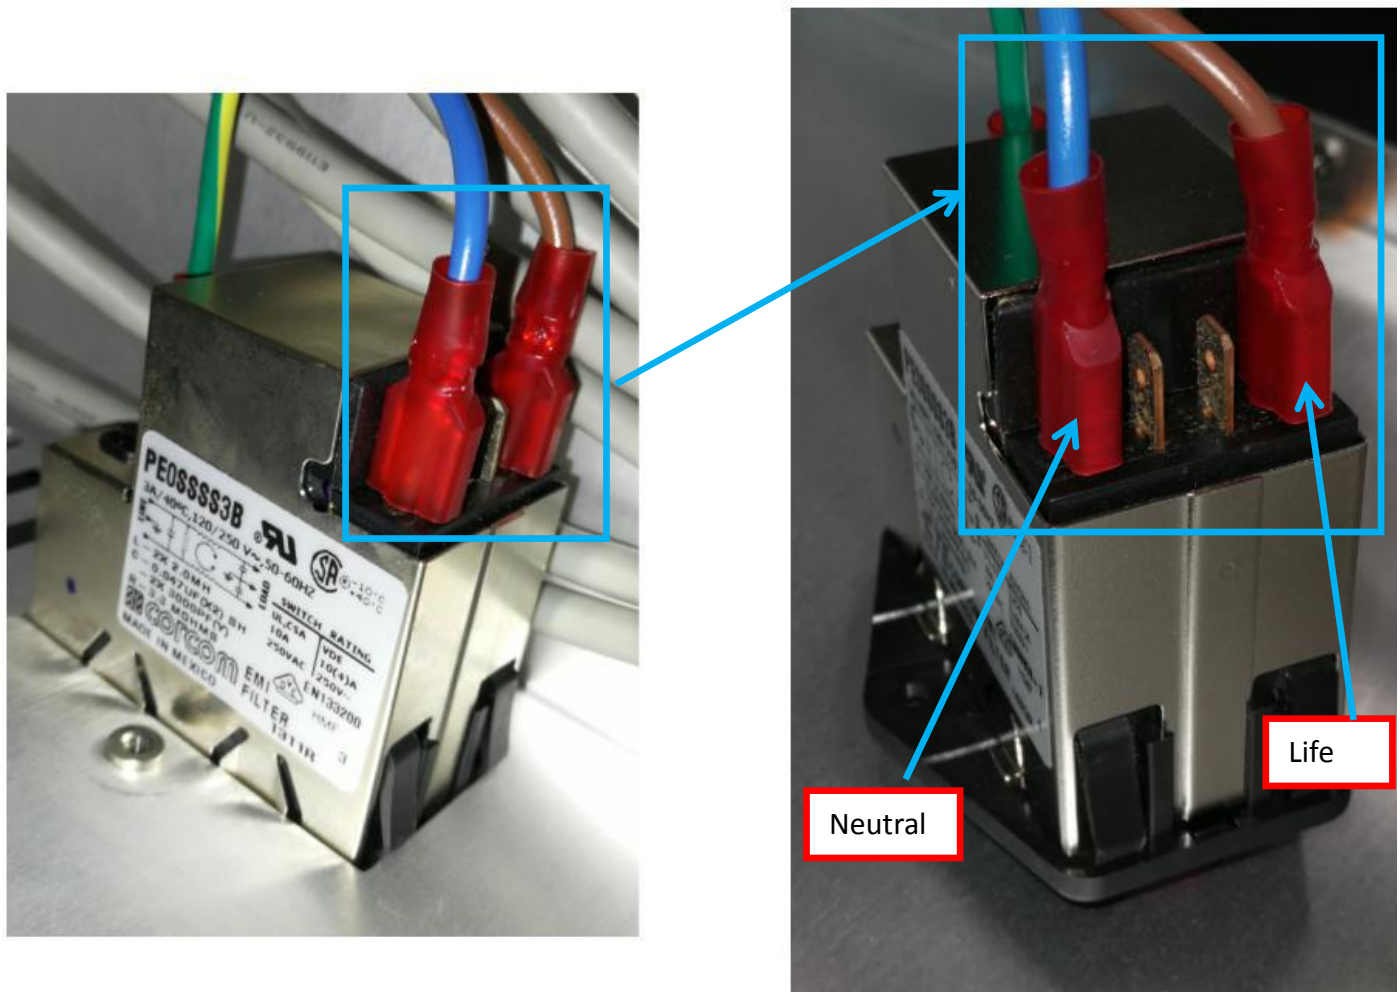

Figure 29 Power Switch Power Cable connection
13. Connect Power Switch Life & Neutral Cable into Power Switch by refer to below orientation. May refer to Figure 29